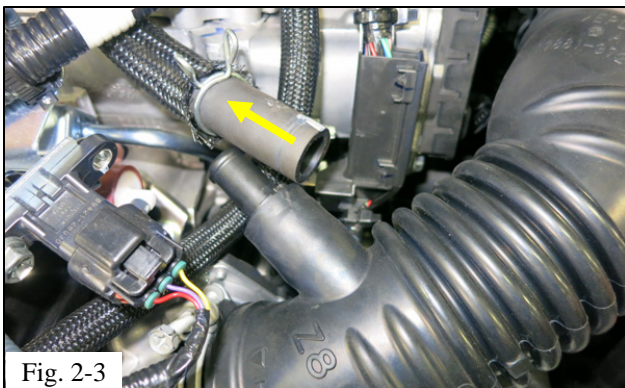

Fig. 2-3
- (c) Disconnect the crankcase vent hose from the air intake bellows (Fig. 2-3).